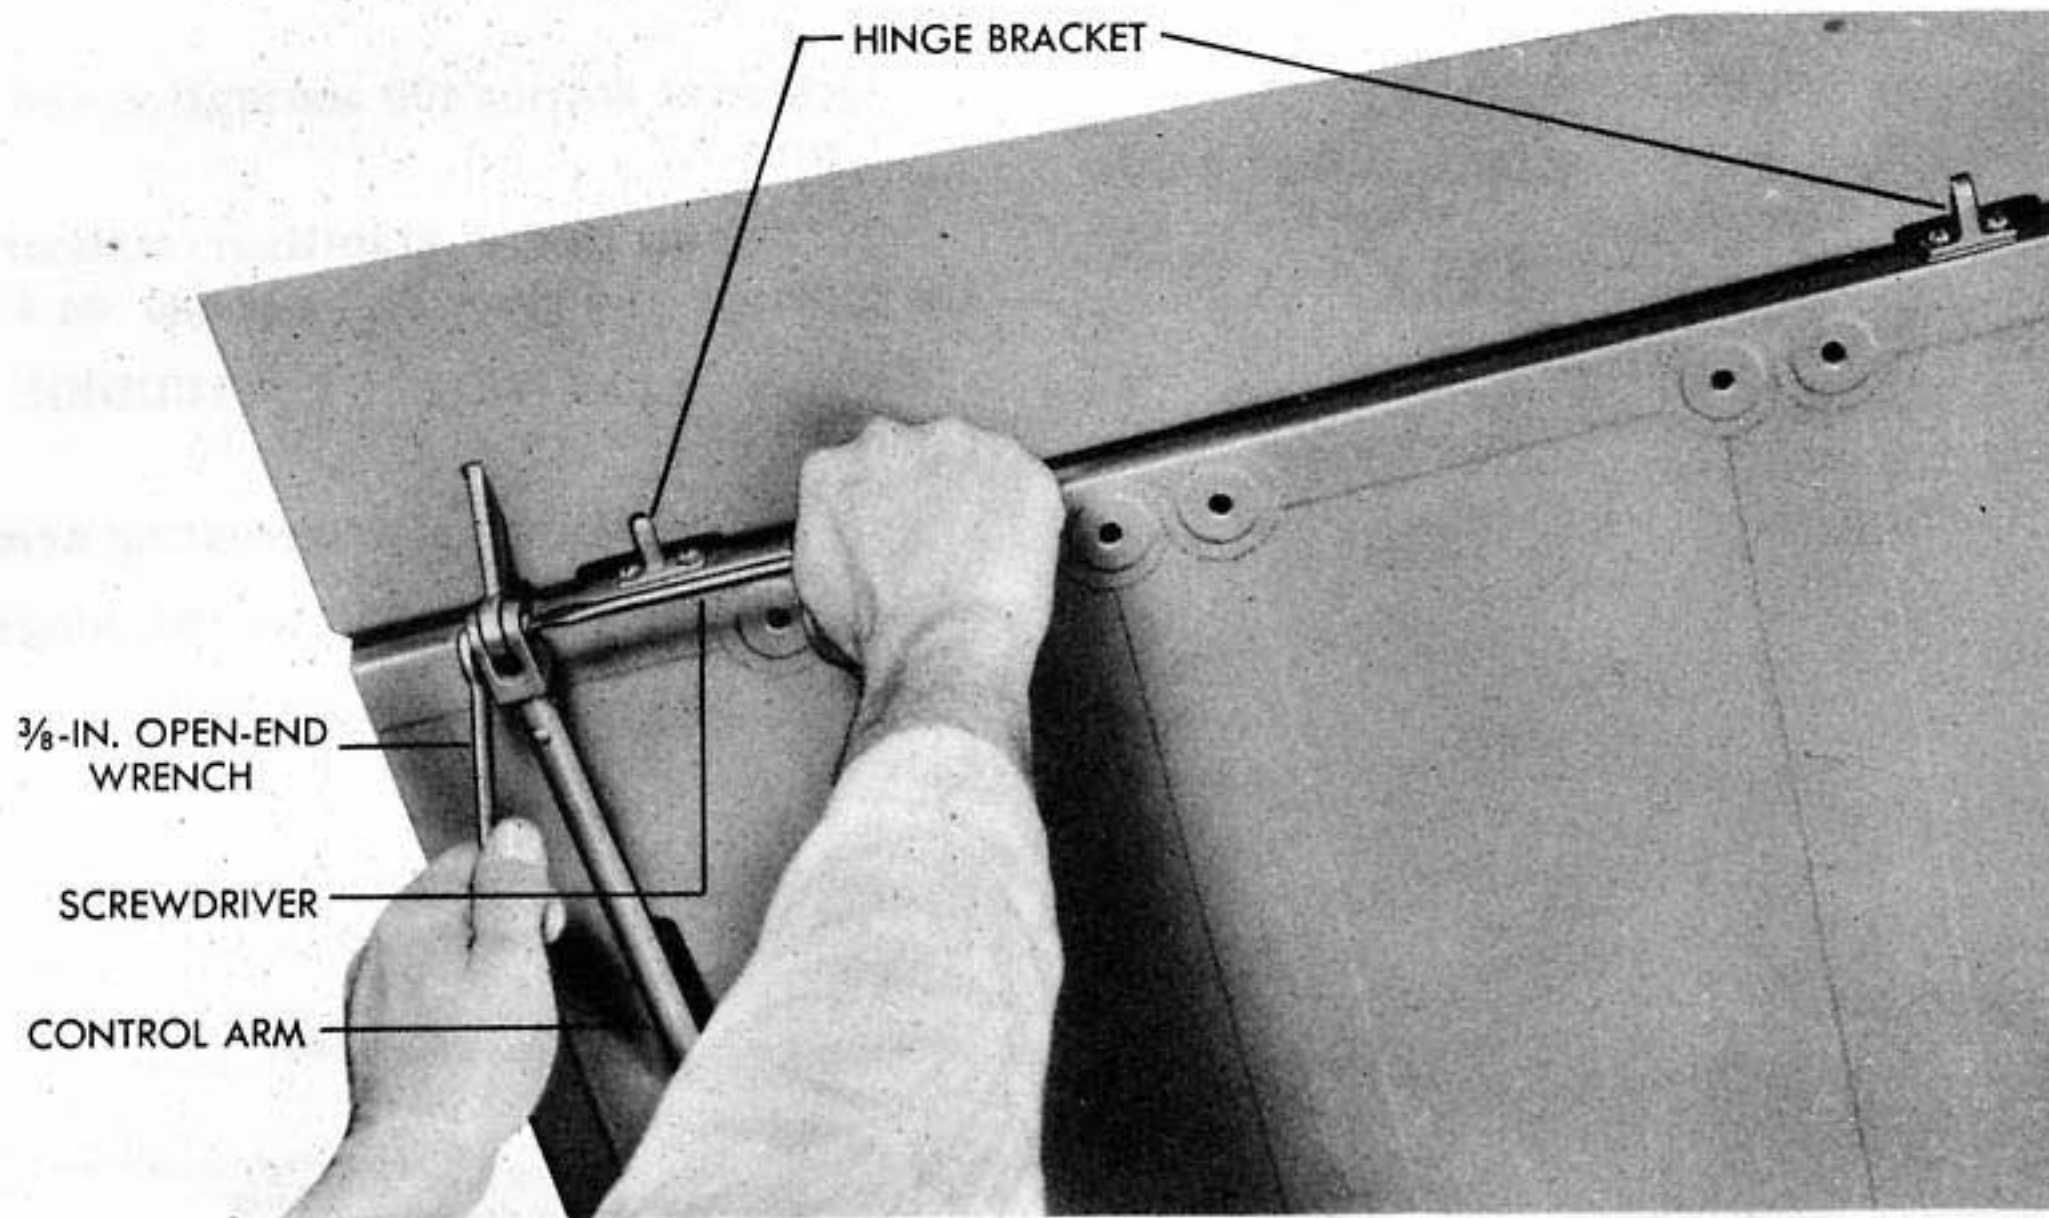

Figure 38 - REMOVING ELEVATOR TRIM TAB
- (f) Replace access doors (H) and (L).
(6) INSTALLATION OF ELEVATOR TRIM TAB. (See figure 38.)